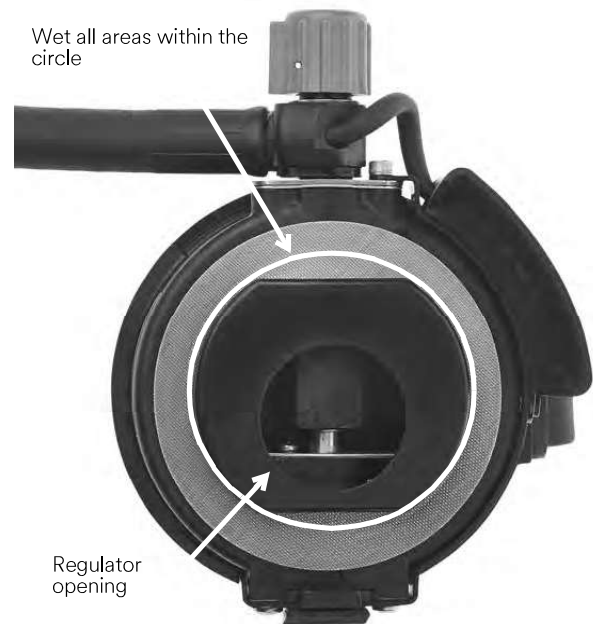

Figure 3-1 Cleaning the mask-mounted regulator
- 3 Inspect the inside of the regulator assembly through the regulator opening (see Figure 3-1). If excessive dirt or soil is present, forward the regulator assembly to 3M-trained authorized personnel for thorough cleaning.
- 5 Using a spray bottle, apply the recommended sanitizing or disinfecting cleaner to the surfaces of the regulator opening and the immediate area around the opening (see Figure 3-1). Be sure to cover the internal components completely with the cleaning solution.